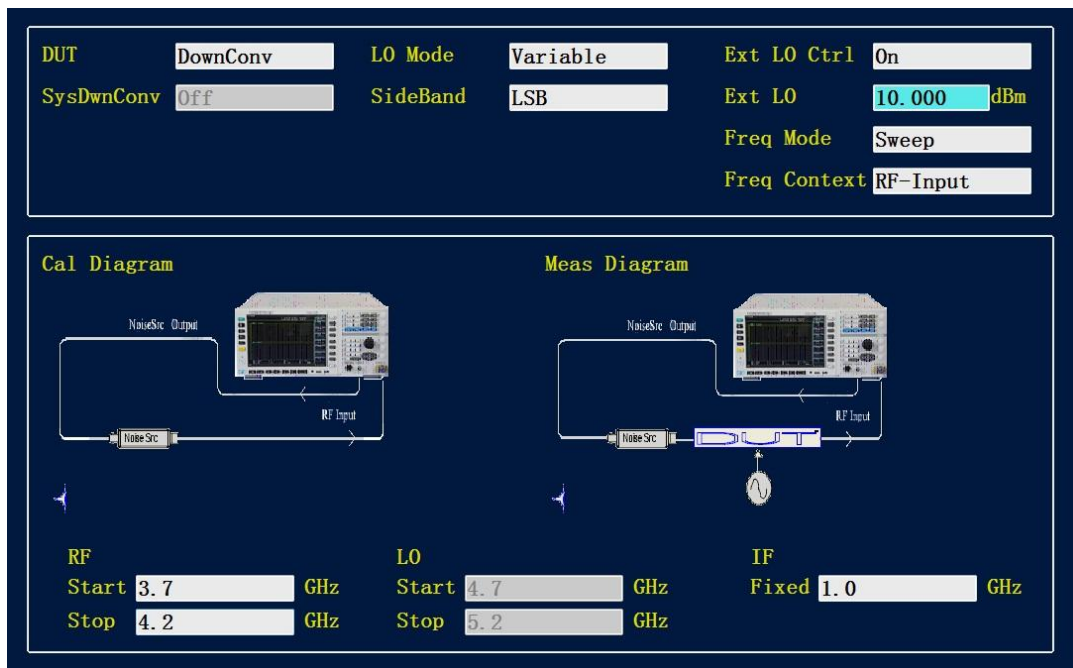

Fig.3.8 Mode Setup interface
- Step 9.** Activate the fixed IF frequency input box, input “1” with the numeric key, and press [GHz] unit key to complete the input. The mode setup interface is shown in Figure 3.8.